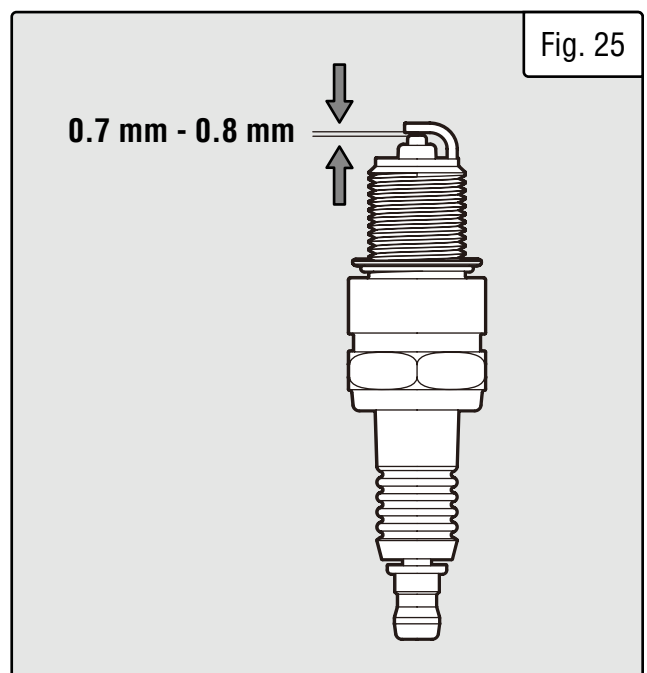

Fig. 25
6. Measure the plug gap with a spark plug gap gauge. The gap should be 0.7 - 0.8 mm (0.028 - 0.031 in) (Fig. 25). Carefully adjust the gap if necessary.